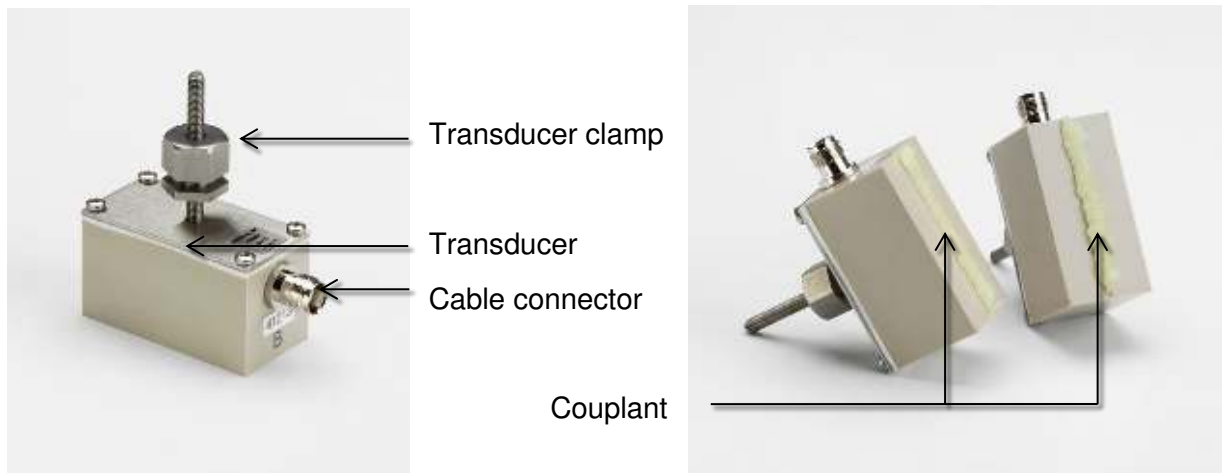

Figure 12 Transducer components (left); applying couplant (right)
1. Tighten each transducer clamp clockwise until it is close to the top of the transducer (Figure 12, left). This is necessary in order to prevent the acoustic couplant touching the pipe when the transducer is initially inserted into the guide rail – as described below.
2. Using the supplied syringe applicator, apply a 3mm bead of acoustic couplant to the base of both transducers (Figure 12, right).